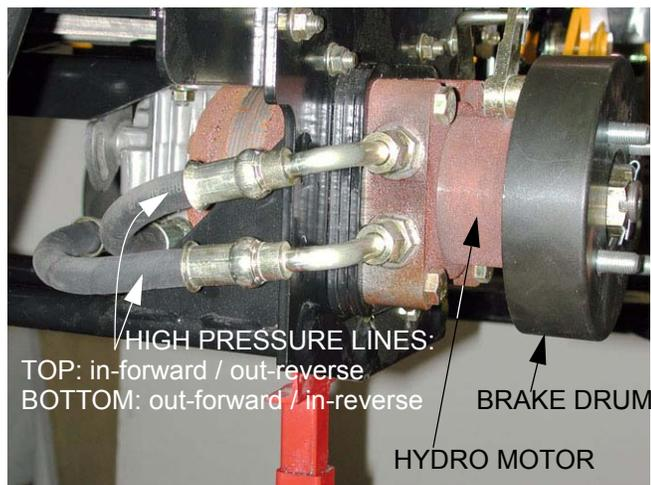

Figure 4.3
- 4.3. Remove the rear wheels using a 3/4" socket. See Figure 4.3.